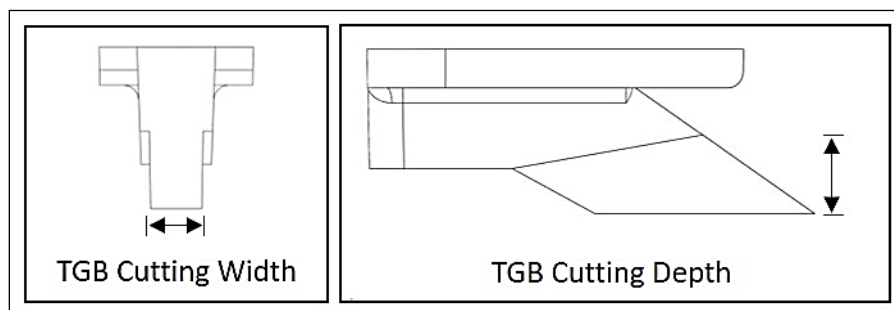

Figure 2. TGB Cutting Width and Depth
- 3.1.2. TGB cutting depth and width is defined as the portion of the TGB extending beyond the gap blade adapter when installed correctly. See **Figure 2**.